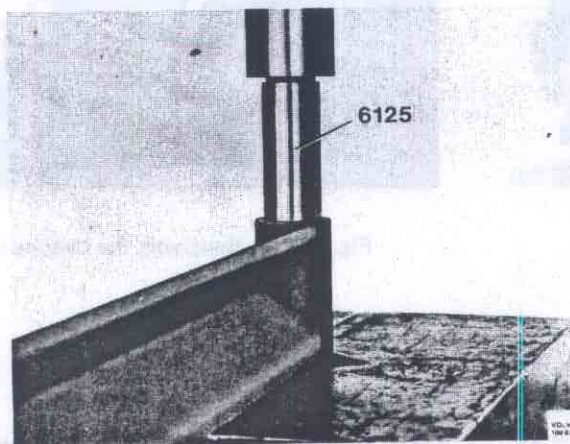

Fig. 76-4. Pressing out the bushing
2. Place the reaction rod in a press and press out the bushings with drift 6125, see Fig. 76-4.